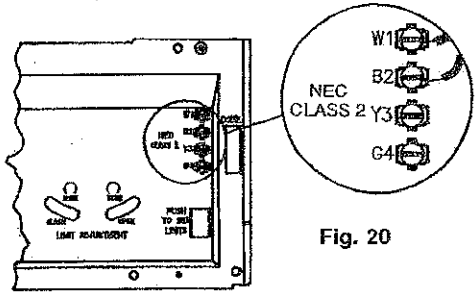

Fig. 20
3. Attach wires to power unit (Fig. 20).
3. **Attach wires to power unit (Fig. 20).**